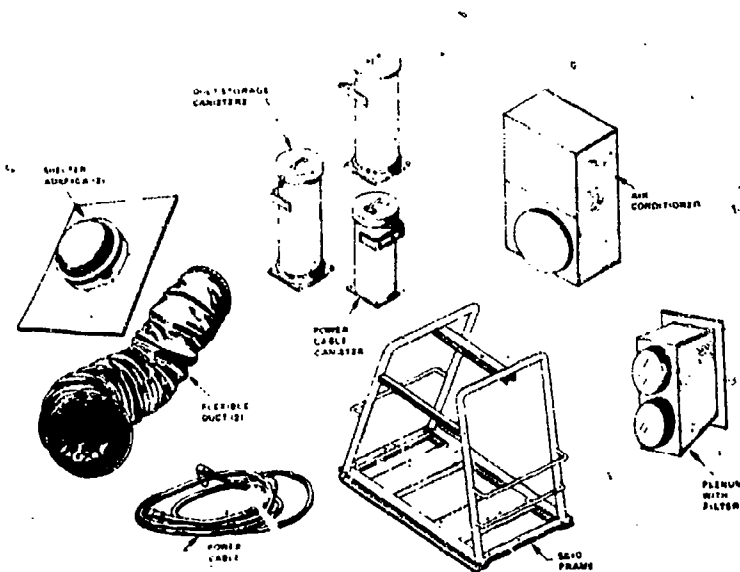
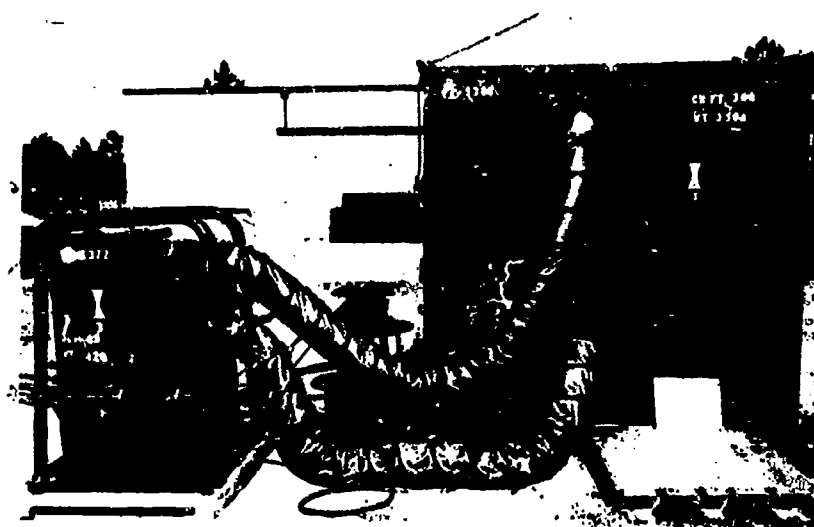

Fig 4-14. Retrofit package components.
Fig 4-15. Skid-mounted air conditioner using retrofit package.
c. **Skid mounted.** Skid-mounted units are designed for mobility. They are used to provide air conditioning at a location remote from the area to be conditioned by a system of flexible ducts. Remote location is desirable when exceptionally low sound level is required. Installation consists of a "retrofit" package with connecting flexible ductwork and cables to permanent fixtures on the unit and shelter (area to be conditioned). Figure 4-14 shows the components of the retrofit package. The skid-mounted version (see fig 4-15) permits easy access for maintenance and facilitates rapid replacement of the complete unit. The tubular lifting frame, which is integral with the skid base, provides support for the ducting storage canister.